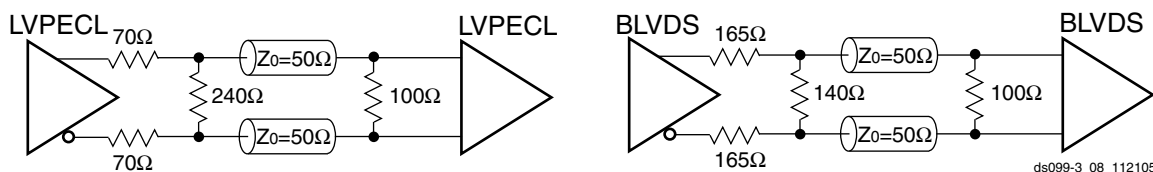

Figure 34: External Termination Required for LVPECL and BLVDS Output and Input
- Each LVPECL_25 or BLVDS_25 output-pair requires three external resistors for proper output operation as shown in Figure 34. Each LVPECL_25 or BLVDS_25 input-pair uses a 100Ω termination resistor at the receiver.